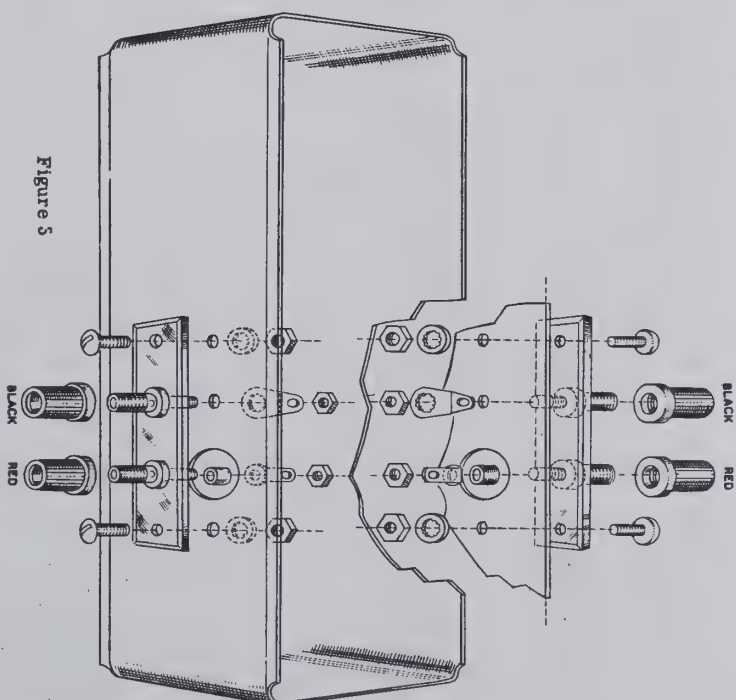

Figure 3
- () Mount the two plastic insulator strips on the case sides using 6-32 screws and nuts with lockwashers on the inside of the case as shown in Figure 3. Align the strips so all holes are centered before tightening.
- () On the threaded portion of the binding post bases protruding through the inside of the case, mount standard solder lugs and secure with 6-32 nuts. Do not use the small solder lugs solder lugs are used. Position as shown in Figure 3. Do not use the small solder lugs here.
- () Slide a 3/16" spacer over the screw protruding inside the case, then a small solder lug and nut. Mount the lug to face toward the nearest case edge, then bend at right angles to the case side. See Figure 3.